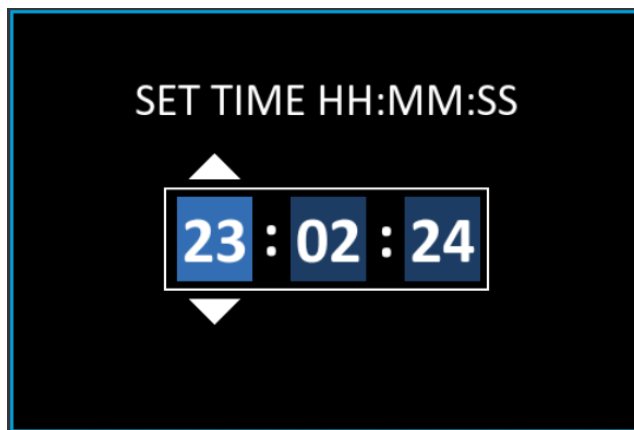

Fig 3.17: Setting Time
- Once a new date is set, pressing the 'ENTER'  button will move to the 'SET TIME' screen, where time can be updated (see Fig 3.17). Pressing the 'BACK'  button will move to the date change screen, and pressing the 'ENTER'  button will save the new time.